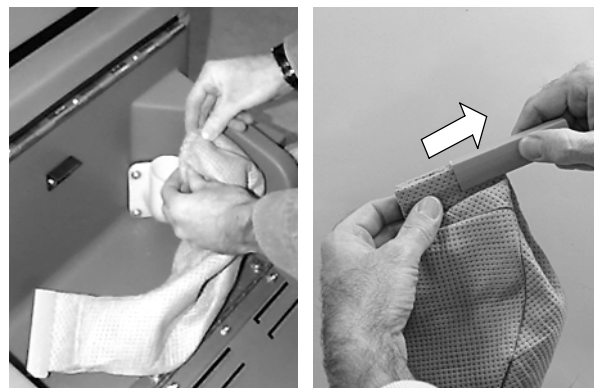

FIG. 26
- Empty or replace the dust control bag. Remove the bag clip to empty bag (Figure 26). Do not allow bag to fill beyond half full.